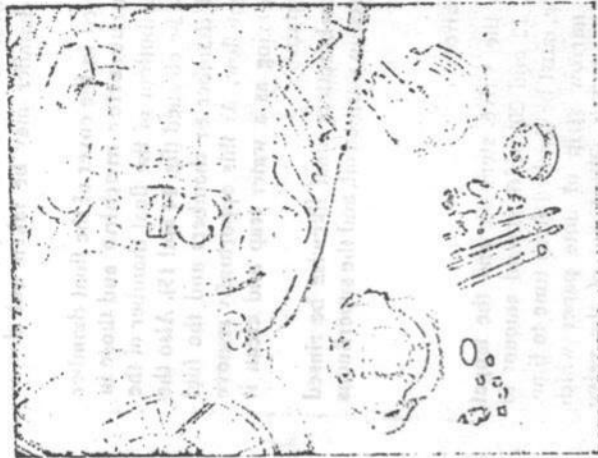

Fig. 13
During the running-in period frequent change of oil for the engine is emphatically recommended. The oil must be drained completely from the crankcase every 300 miles, the oil filter 17 (fig. 13) must be taken out by unscrewing the six nuts 18 and removing the cover 19, and the casing must be rinsed with rinsing oil. The oil filter must by no means be cleaned with petrol or kerosine.
The camshaft 1 (fig. 13) supported in plain bearings 2 and 3 above the crankshaft is driven from the latter by the sprockets 4 and 5 which are connected by a silent roller chain. The camshaft also drives through sprockets 6 and 7 the magneto for lighting and ignition by means of a silent chain.
The air breather of the crankcase consists of a rotary slide valve 8 connected by set studs with the sprocket wheel 6 keyed on to the steering wheel 1, the rotary slide valve being supported by the cover 9 of the transmission casing (fig. 13). The air which is compressed in the crankcase on the down stroke of the pistons escapes through the rotary slide valve 8, the cover 9, and through a connection 10 to a piping 11 located outside which conveys the air to the open. In this manner a slight back pressure is always produced in the crankcase which effectively prevents any escape of oil at the joints of the casing.
The oil is pressed into the rising pipe 20 through a bore in the cover 21 and enters the oil distribution pipe 12 (figs. 13 and 20) and from there through the vertical oil pipes 13 and the finely bored oil jets 14 to the bushes 15 and 16 (fig. 13) to lubricate the crankshaft roller bearings. Part of the oil enters the distributing grooves of the bushes, from where it is then con-
b) R 12 two-carburettor machine. For the R 12 two carburettor towing machine two Amal single slide valve pump carburettors are employed the inner structure of which is shown by fig. 13.
With the yearly overhaul this cleaning must be attended to under all circumstances. When replacing care must be taken that the recesses of the ball bearing bushes 13 and 16 coincide with the oil jets 14 of the rising piping 13, as otherwise the oil supply to the bearings is interrupted (fig. 13).